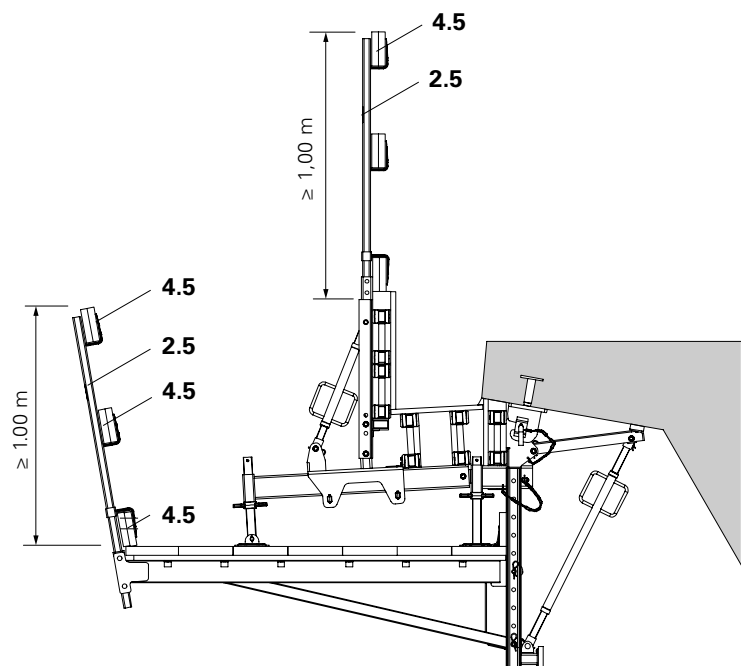

Fig. A6.03
- Fix guardrail boards and toe boards to Guardrail Posts (2.5) with wire pins or wood screws (4.5). (Fig. A6.03)